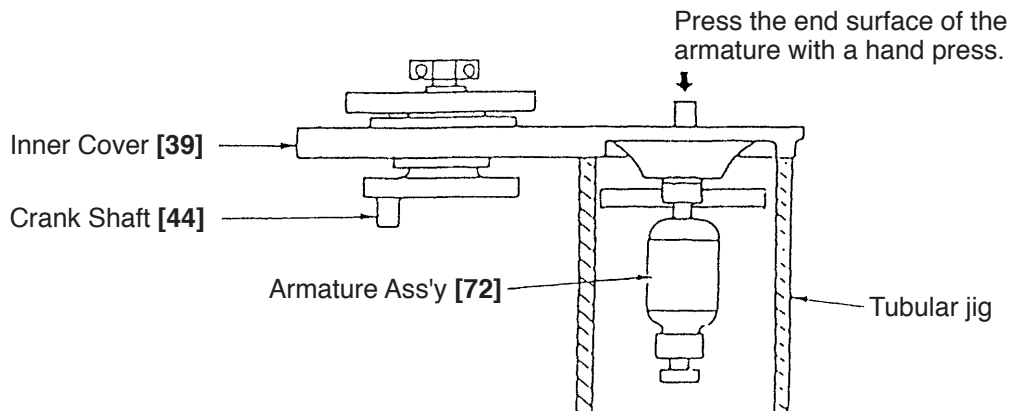

Fig. 13
(1) Disassembly of the Armature Ass'y [72]
- C. Remove the four Seal Lock Hex. Socket Hd. Bolts M5 x 16 [60] and three Tapping Screws (W/Flange) D4 x 25 (Black) [93]. Remove Handle (A) [82], Handle (B) [84], four Nylock Bolts (W/Flange) M5 x 12 [102] and Back Cover [79]. Remove the six Seal Lock Hex. Socket Hd. Bolts M6 x 45 [57], Gear Cover [35] and Counter Gear [62]. Insert a flat-blade screwdriver or a similar tool into the air vent of the Inner Cover [39] and raise the Inner Cover [39]. Then the Inner Cover [39], Armature Ass'y [72] and Crank Shaft [44] can be removed as a single unit. At this time, be very careful not to damage the Fan [71].
- D. As illustrated in Fig. 13, support the Inner Cover [39] with an appropriate tubular jig, and push down on the end surface of the armature shaft with a hand press to separate the Armature Ass'y [72] from the Inner Cover [39].